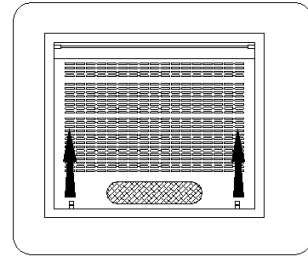
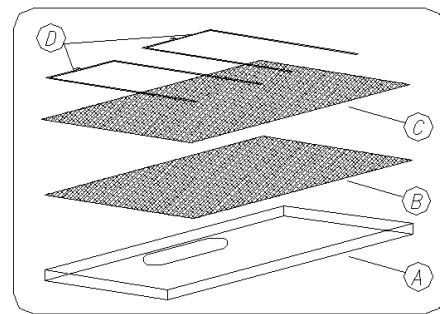

Fig. 5
Fig. 6
In this option filtered air returns to the room through openings in the front of the hood. In this setting it is necessary to install the carbon filter (Fig. 6).
The grease filter should be replaced at least every two months during normal operation of the hood. The filter can be dismantled by releasing its securing studs (Fig. 5), keeping in mind that the filter has to be protected with your hand during releasing the studs, removing catches D which secure the filters (Fig. 6), then you can replace the filter and reinstall the catches and the mesh.
Carbon filters (C Fig. 6) can absorb odours until they are saturated. They cannot be washed or regenerated and should be replaced at least every 2 months or more frequently in case of very intensive use.
- remove masking cover A (Fig. 6) together with grease filter B,